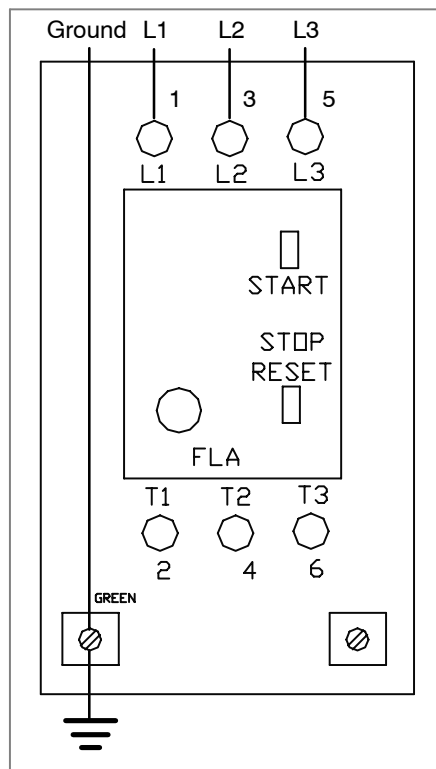

Figure 19
2. Insert line cord through grip (AM) and tighten nut.
3. For correct three-phase motor shaft rotation, connect line phase sequence L1, L2 & L3 to terminals as shown (Figure 19).
NOTE: The motor ground wire is also attached to left terminal marked \perp (Figure 19).
4. Attach ground wire to lower left terminal marked \perp (see Figure 19).